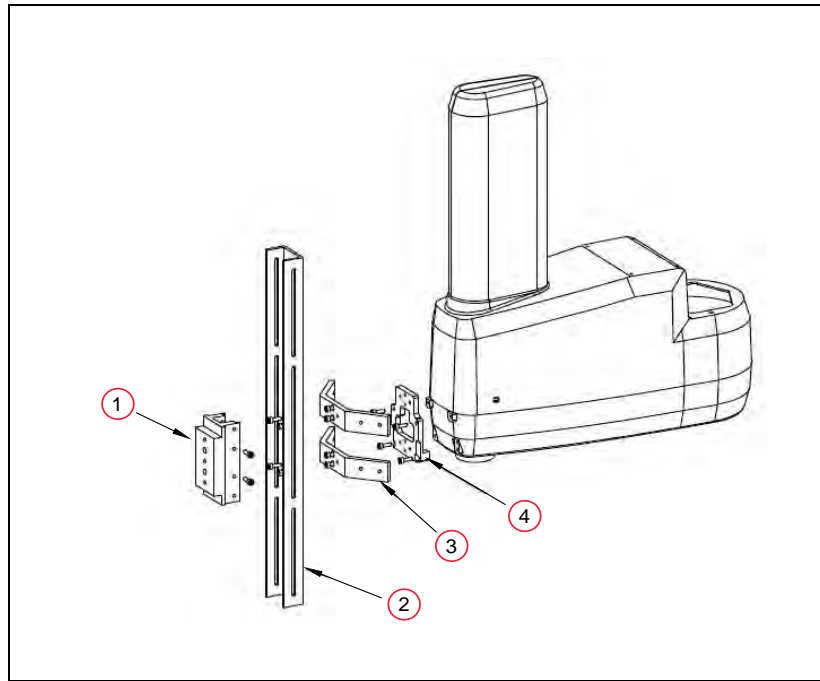

Figure 7-15. Mounting a Camera on the Robot
1. Install the camera plate to the outer link with four M5 x 12 mm screws. See Figure 7-15. as you perform this procedure.